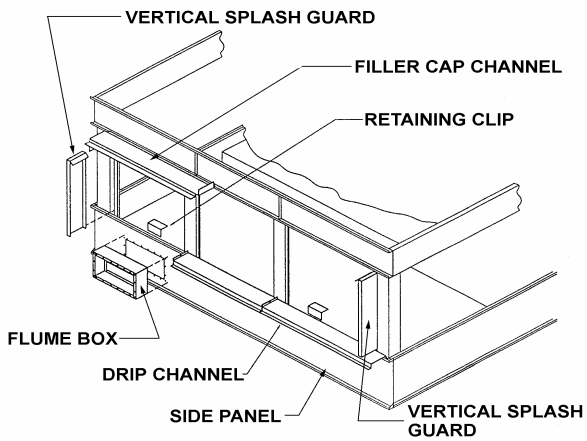

Figure 8 - Drip Channel and Splash Guards, 4,9 - 5,3 and 7,3 m wide models
11. Place the vertical splash guard in the bend of the vertical supports. Attach the vertical splash guard using 6 mm tappers. For stainless steel construction, attach the vertical splash guard using 8 mm stainless steel nuts and bolts. (See Figure 8.)